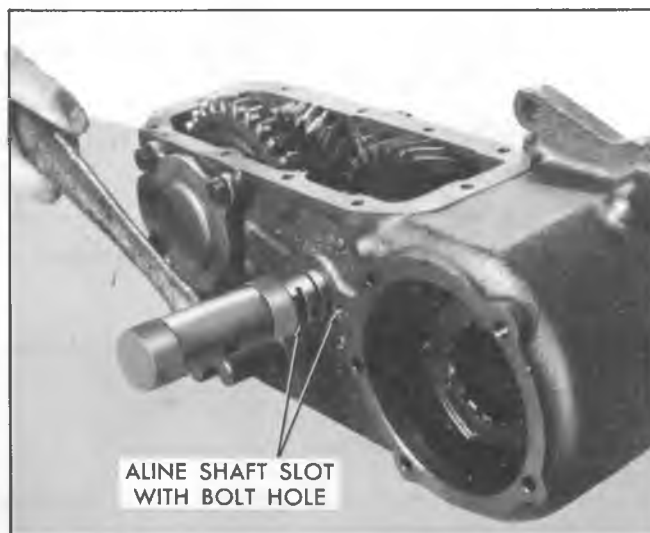

Fig. 16D—Installing Intermediate Shaft
17. Using dummy shaft J-23419, install needle bearings and spacers in intermediate gear. Position thrust washers in case with tang in groove on case and supporting intermediate gear in case, installing intermediate shaft through rear of case as shown in Figure 16D.